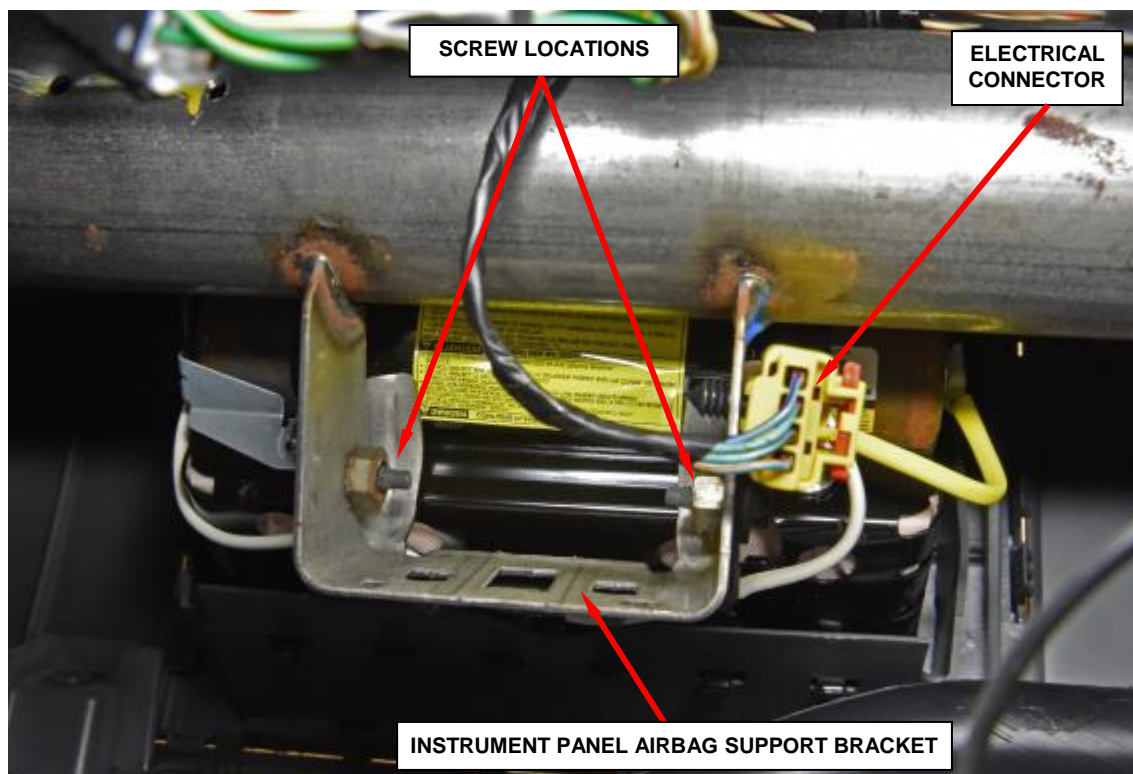

Figure 30 – Airbag Module (View through glove box opening)
8. Reach up into the instrument panel between the upper glove box opening reinforcement and the cross car beam to access and disconnect the instrument panel wire electrical connector from the airbag inflator pigtail wire connector on the right side of the instrument panel airbag support bracket (Figure 30). To disconnect the connector:
9. Remove and save the two screws that secure the passenger airbag lower bracket to the instrument panel airbag support bracket (Figure 30).
10. Disengage the airbag inflator pigtail wire connector from the instrument panel airbag support bracket (Figure 30).